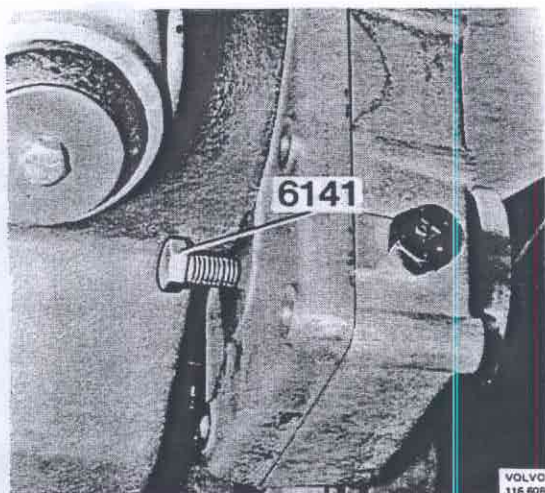

Fig. 48-7. Removing cover
4. Remove the plug, on the power take-off housing. Screw in the separating bolt 6141, Fig. 48-7 and press the cover from the housing. Remove the bolt and push in the plug again.